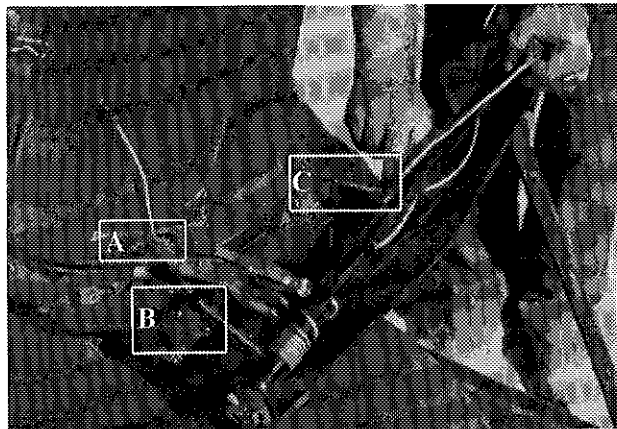

Figure 21
- 4) **Figure 21:** Turn crank clockwise until anchor hole (A) is near cable guide (B). Route the other end of the cable through guide (C) and counterclockwise around the chute.